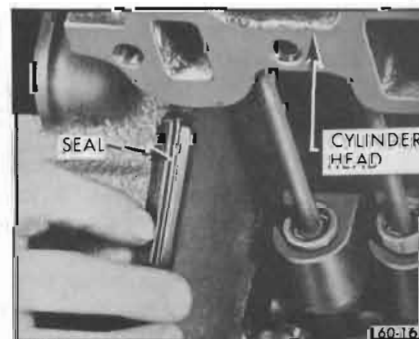

Figure 60-16—Intake Manifold Seal Installation
14. Place new rubber manifold seal in position at front and rear rails of cylinder block. Be sure pointed ends of seal fit snugly against block and head. See Figure 60-16.